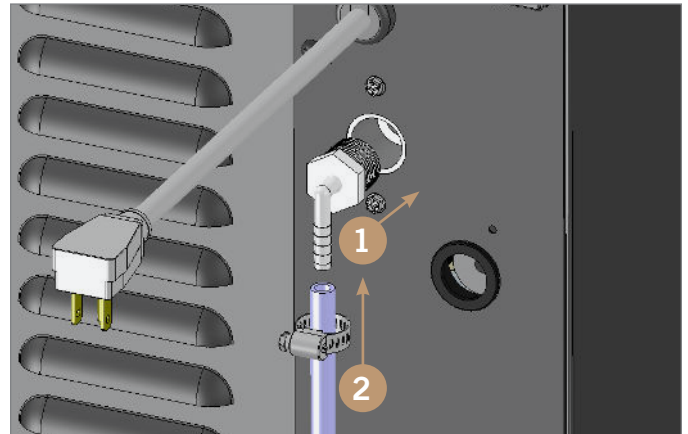

FIG. 1. Be sure to tightly clamp the drain line onto the barbed fitting. Thread sealant required.
1. Thread the 1/2" NPT connector into the drain fitting. See fig. 1.
2. With the clamp on the hose, connect the clear drain hose to the barbed fitting. See fig. 1.